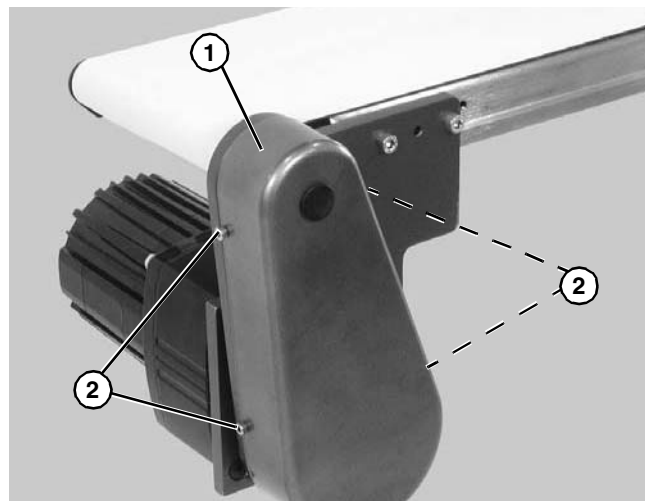

Figure 16
10. Install cover (Figure 16, item 1) with four (4) screws (Figure 16, item 2). Tighten to 35 in-lb (4 Nm).
1. Remove four (4) screws (**Figure 16, item 2**) and remove cover (**Figure 16, item 1**).
4. Install cover (**Figure 16, item 1**) with four (4) screws (**Figure 16, item 2**). Tighten to 35 in-lb (4 Nm).
6. Install cover (**Figure 16, item 1**) with four (4) screws (**Figure 16, item 2**). Tighten to 35 in-lb (4 Nm).